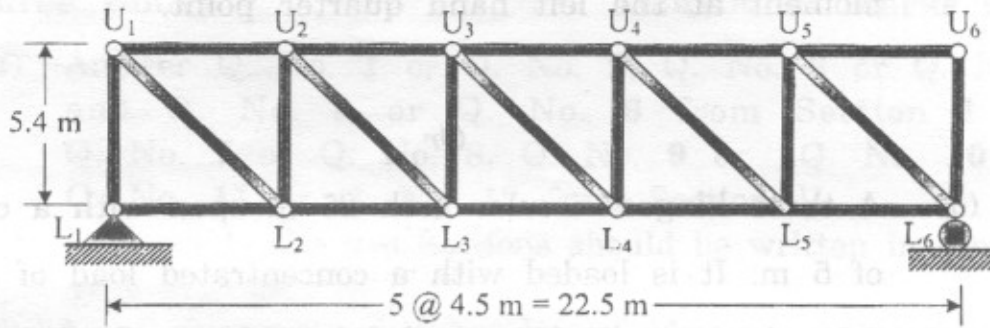

Fig. 10(a)
10. (c) Draw the influence line diagram for the forces of the members, U_2L_2 , U_2U_3 , L_3L_4 and U_2L_3 for the N-type truss shown in Fig. 10(a). [8]